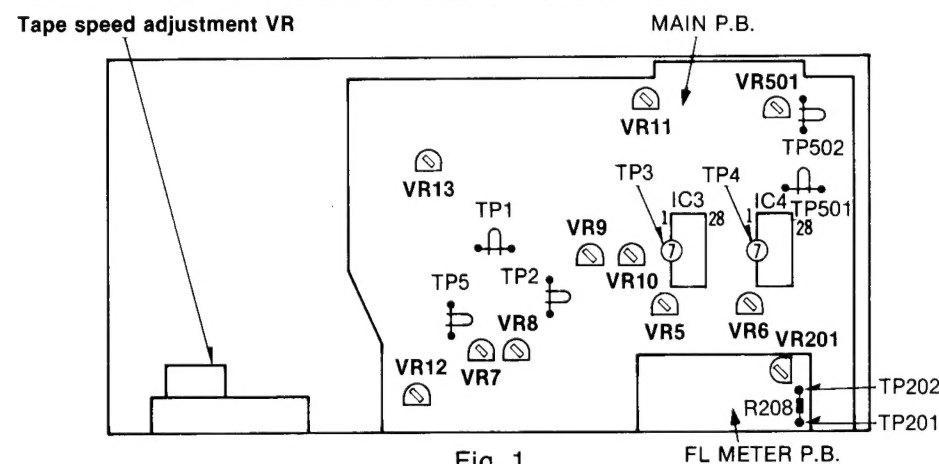

Fig. 1
| 1 | 1 | Case cover | <ul style="list-style-type: none"> • 2 ornament screws(A) • 3 screws(B) • As shown in fig. 1, pull case cover in the direction of arrow ①. | 1 |
- If measured value is not within the standard value, adjust it by using the tape speed adjustment VR shown in Fig. 1.
1. If the measured value is not within standard the adjust VR5 (L-CH) or VR6 (R-CH) (See fig. 1).